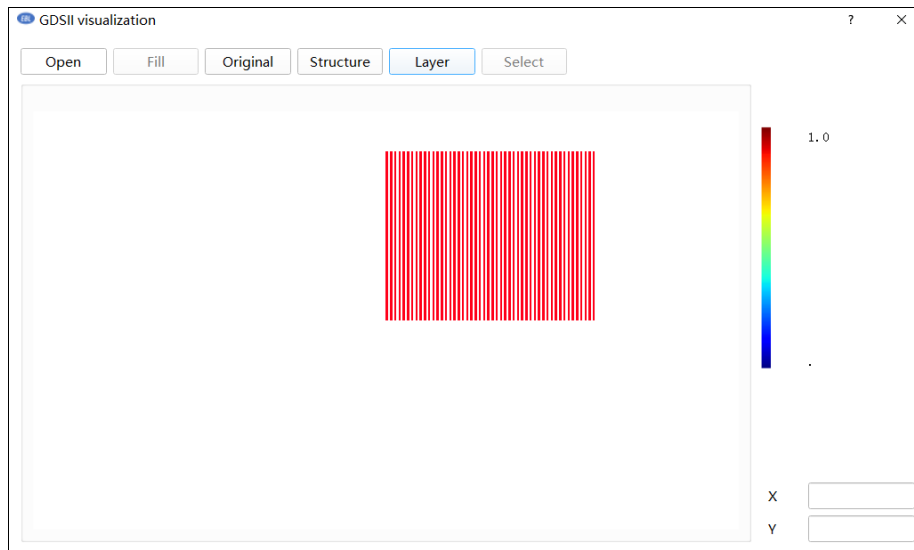

Figure 3.4.1 Display dose
- 1) You can click "Fill" at the top of the interface (Figure 3.4.1) to view the layout after displaying the filling dose. The maximum and minimum values of the color bar on the right represent the maximum and minimum doses of the current layout. If the layout has only one dose, the color bar on the right has only one value and the color is red. (Note: Only fill once.)